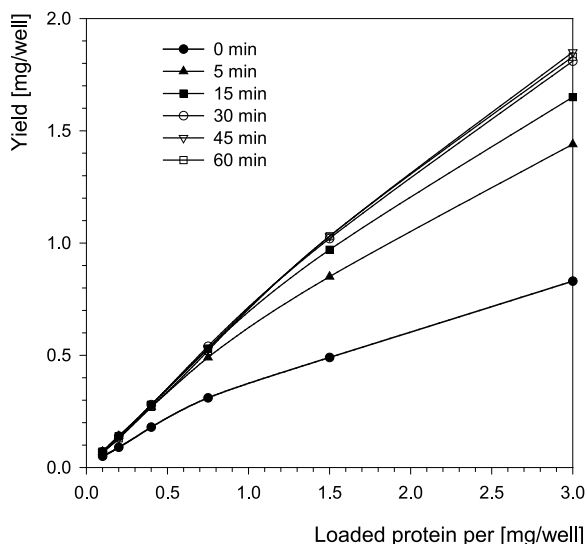

Figure 2 Impact of sample incubation time on protein yield
- As a starting point, we recommend to shake the suspension for 15–30 min (see Figure 2). However, as the purification plate is absolutely leak-free, longer sample incubation times can be used to achieve maximum yield (see Figure 2). If shorter incubation periods are required (e.g., according to protein stability), incubation can be reduced (e.g., to 5 min), but then yield may decrease (see Figure 2).